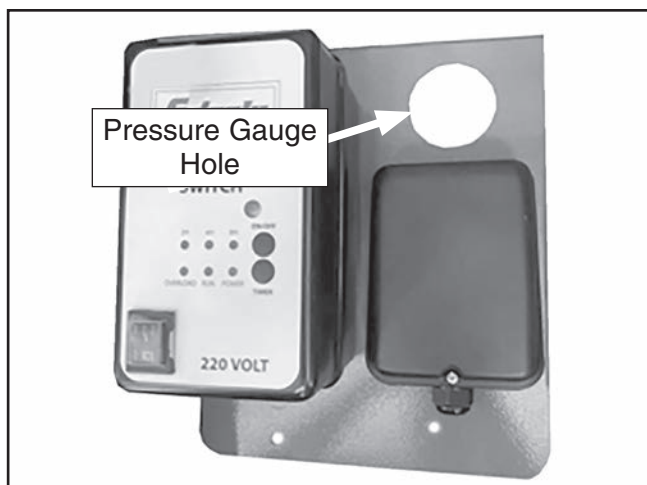

Figure 38. Pressure gauge hole location (switch bracket removed from stand for clarity).
44. Place pressure gauge in hole on switch bracket from front (see **Figure 38**).